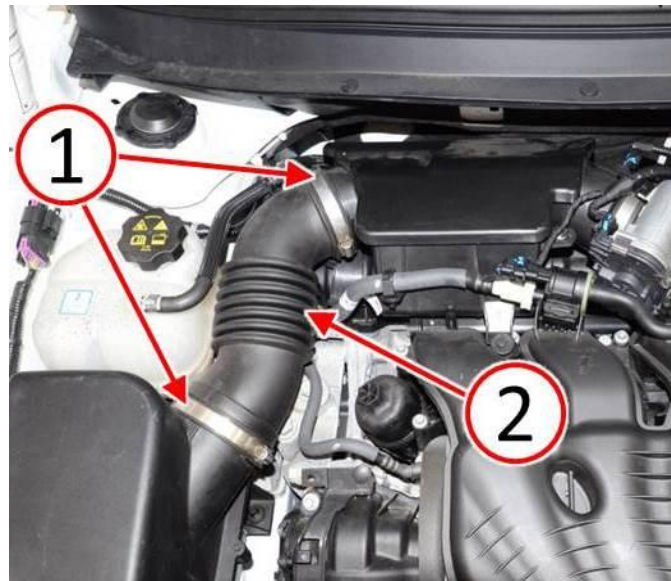

Fig. 13 Install Engine Air Inlet Duct
15. Install the air inlet duct (2) and tighten the air inlet duct clamps (1) to 4 Nm (35 in. lbs.) (Fig. 13).